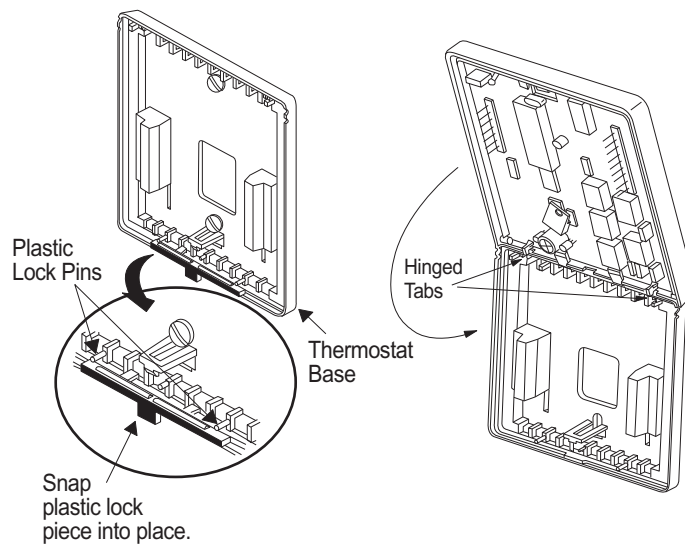

Figure 11: Installing the Thermostat Cover Lock
1. Place the ends of the lock piece (included with unit) under the lock pins extending from the bottom of the mounted base. The tab in the middle of the lock piece extends downward from the mounted base (Figure 11).
3. Press on the bottom center edge until plastic lock snaps in place (Figure 11).